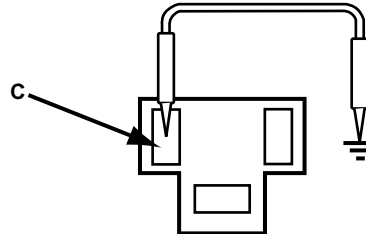

Figure 12-29 Terminal C on 1990–93 B-Series and MPV
1. Attach a jumper wire to Terminal C (yellow wire, Figure 12-29).